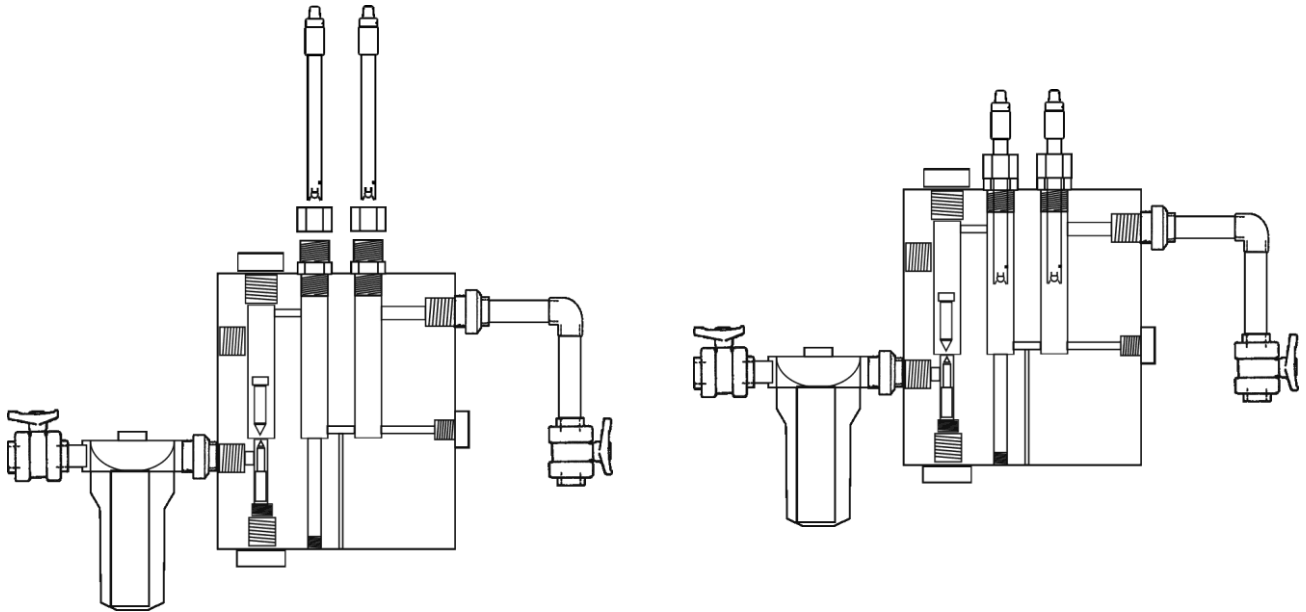
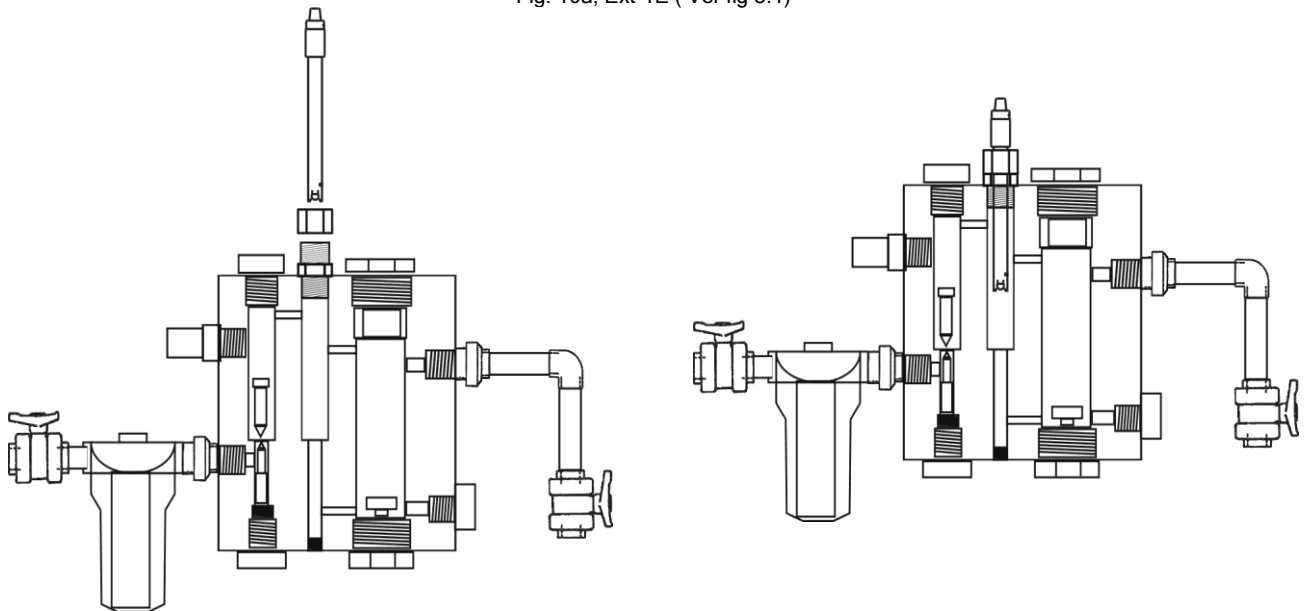

Fig. 10a, Ext-1E (Ver fig 3.1)
Fig. 10b , Ext-2 (Ver fig 3.2)
1. Insert the pH/ORP sensors into their corresponding places of the holder. EXT-1E (Fig. 10a) / EXT-2 (Fig. 10b).